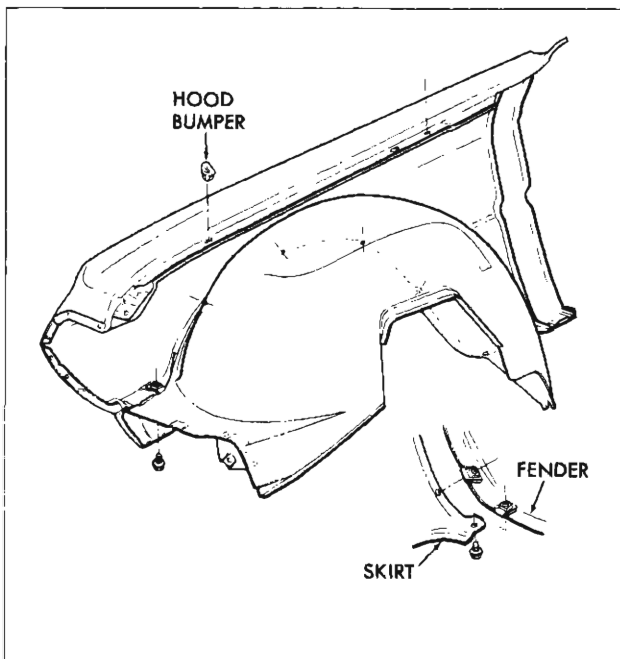

Fig. 138—Fender-to-Fender Skirt Attachment
4. Referring to Figure 138: Remove screws retaining fender to skirt.